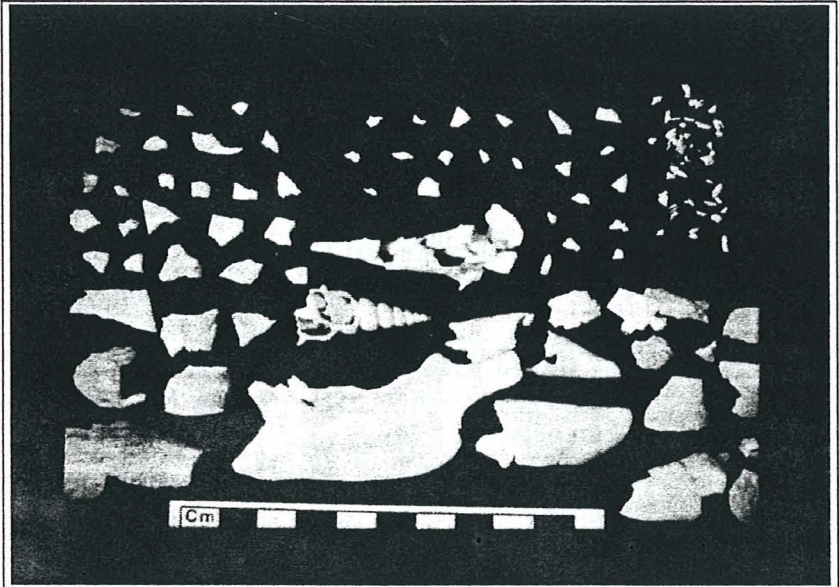

Figure 1
Figure 1 shows the initial stages of the work where the larger pieces of the shell have been stuck together using Ablebond 342-1 epoxy resin. The inner spiral of the shell has been partially reconstructed with the fragments glued onto gummed paper. This difficult three-dimensional jigsaw presented an additional problem in trying to fit the
Since palm folders are too expensive (£2 + VAT each), herbarium folders for each specimen were made from herbarium sheets (Fig. 1), so that a rectangle of paper, cut from another sheet (4 per sheet), could be mounted inside the folder. This would then allow each specimen to be removed and examined without endangering the fragile and sensitive slice.
5. Make folder as per figure 1 and label exterior.